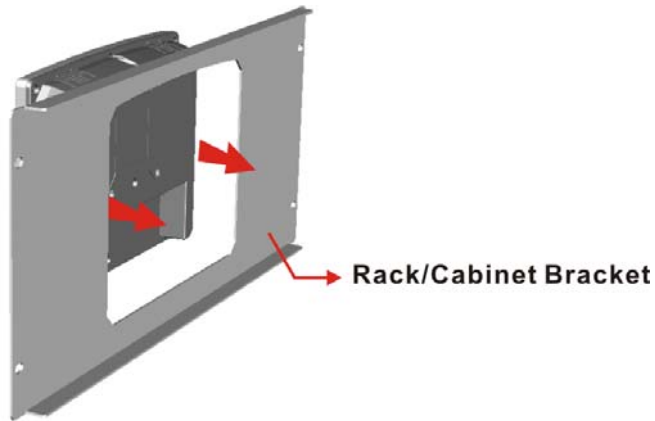

Figure 4-9: The Rack/Cabinet Bracket
- Step 1:** Slide the rear chassis of the AFL-08AH-N270-CR flat panel PC through the rack/cabinet bracket until the aluminum frame is flush against the front of the bracket (**Figure 4-9**).